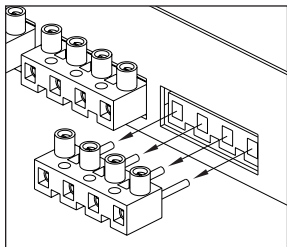
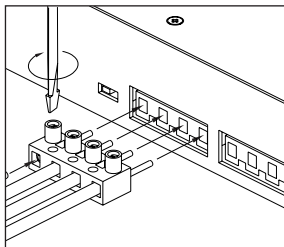

Figure 3
Figure 4
3. Make the connections to the HDL-4. The amplifier/speaker connectors on the HDL-4 are removable. If you wish, you may remove the HDL-4's connectors to facilitate installation see **(Figure 3)**. Strip 3/8" of insulation from the end of each wire. Tightly twist the end of each wire until there are no frayed ends. Insert each wire into the appropriate hole on the spring-loaded connector terminals. Be certain that proper phasing is observed—connect the positive terminals on the HDL-4 to the positive terminals on the amplifier and speakers and the negative terminals on the HDL-4 to the negative terminals on the amplifier and speakers. Re-install the connectors if they were removed. See **(Figure 4)**.